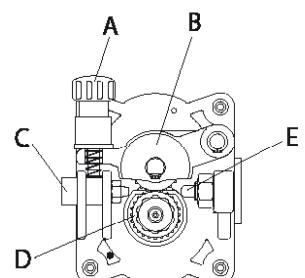

FIG. 6
- Loosen and lower the plastic knob (A) (Fig.6). Open the pressure arm (B) of the feeder. Extract the wire from the torch liner (E).
- When the wire is disconnected, grasp it with pliers so that it cannot exit from the spool. If necessary, straighten it before inserting it in the wire input guide (C). Insert the wire on the lower roll (D) and in the torch liner (E).
- Open the side panel. Loosen and lower the plastic knob (A) and release the pressure arm (B) (Fig. 6). Cut the wire (in the case it is installed) grasp it with pliers so that it cannot exit from the spool and fix it on the suitable hole in the reel. Remove the nozzle and contact tip. Remove with pliers the wire from the hose and torch assembly.